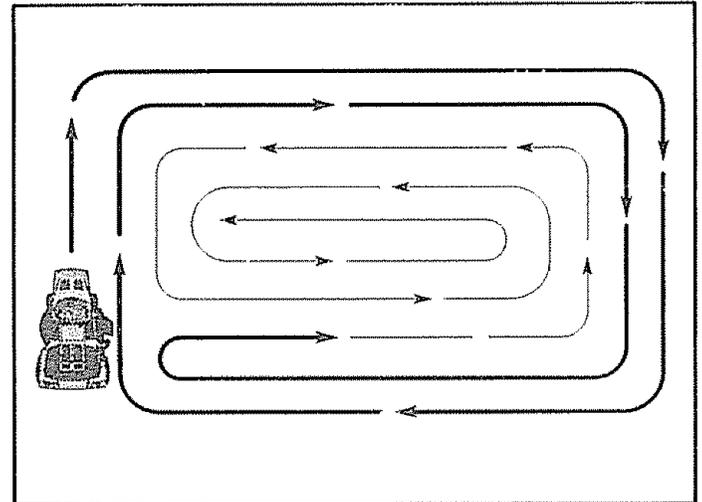

FIG. 11
- When mowing large areas, start by turning to the right so that clippings will discharge away from shrubs, fences, driveways, etc. After one or two rounds, mow in the opposite direction making left hand turns until finished (See FIG. 11).